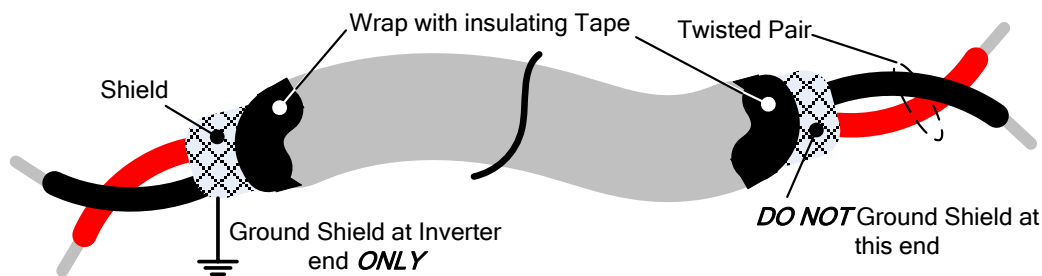

Fig. 3.17.1 Shielded Twisted-Pair
- (1) Separate the wiring for control circuit terminals from main circuit wiring for terminals (R/L1, S/L2, T/L3, U/T1, V/T2, W/T3).
- (2) Separate the wiring for control circuit terminals R1A-R1B-R1C or R2A, R2B (Relay outputs) from wiring for terminals S1 – S6, A0, AGND, +10V, AI1, AI2 and GND wiring.
- (3) Use shielded twisted-pair cables (#24 - #14 AWG / 0.5 -2 mm²) shown in Fig. 3.17.1 for control circuits to minimize noise problems. The maximum wiring distance should not exceed 50m (165 ft).